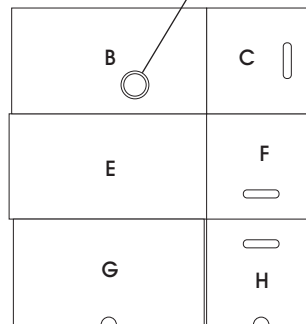

Figure 1
1. Hold box with certification stamp facing away and upside down. (See Figure 1)